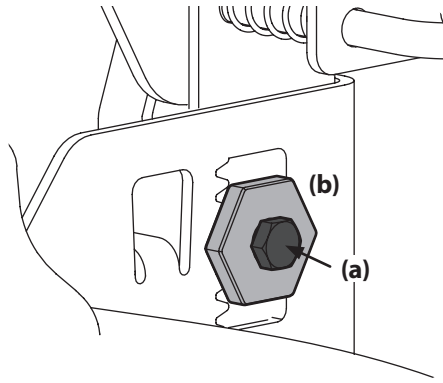

Figure 4-5
3. Loosen, but do NOT remove, the hex bolt (a) on the rear left deck hanger link. See Figure 4-5.